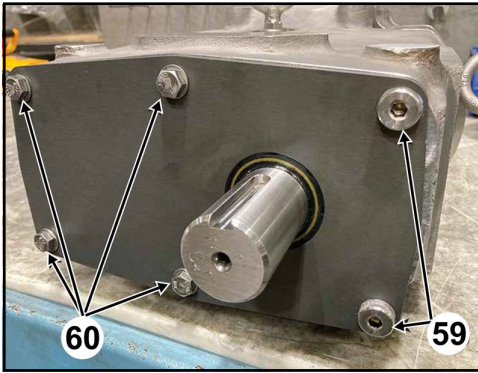

Figure 253 - Remove fasteners
2. Remove the fasteners from the gear case cover; the two socket head shoulder bolts (Figure 253, item 59) from the two holes by the drive shaft, and the four (six on the 220 and 224-UTS) hex head cap screws (item 60) from the remaining holes.